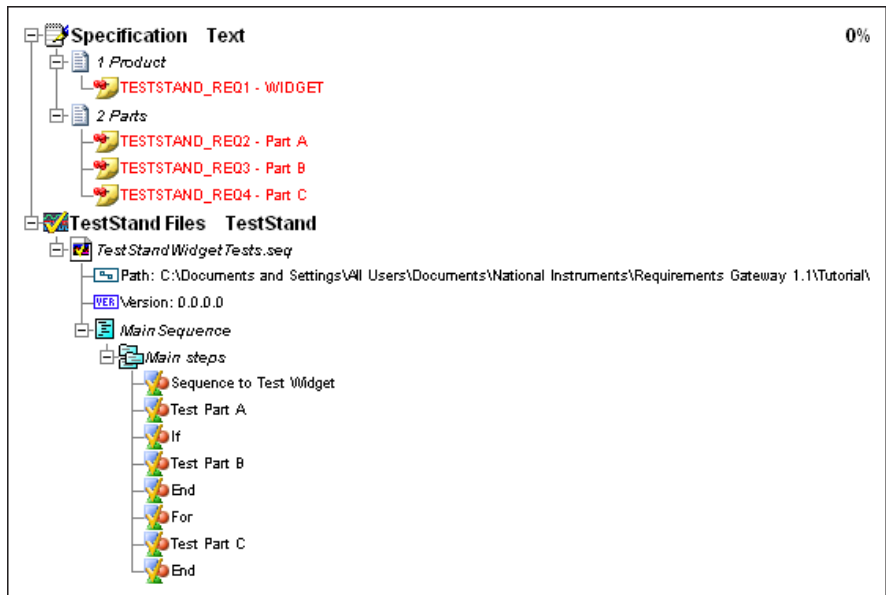

Figure 6-1. TestStand Document Expanded in the Management View
16. Expand the two documents in the Management View, as shown in Figure 6-1. Requirements Gateway displays `TestStandWidgetTests.seq` under the TestStand Files document.